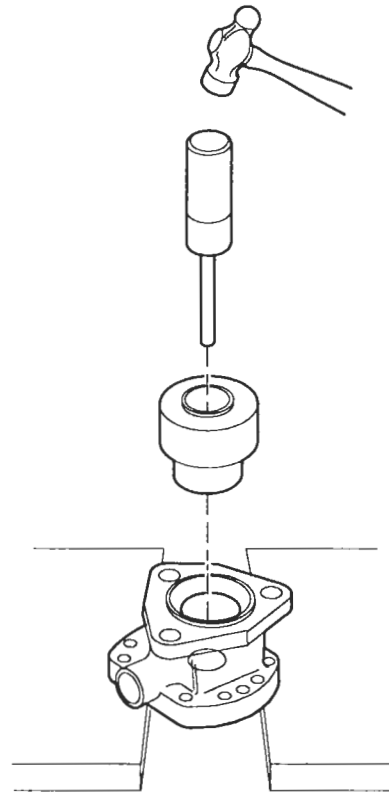

Figure 9. Installing Outer Seal
- c. Place the shorter end of the adaptor J 1508-9 over the pilot and against the shoulder of the installer handle. Place the outer oil seal on the pilot of the installer handle with the lip of the seal facing the adaptor. Then, insert the pilot of the installer handle into the pump body and drive the seal in until the shoulder of the adaptor contacts the pump body (Figure 9.) Thus, the oil seals will be positioned so that the space between them will correspond with the drain holes located in the bottom of the pump body.